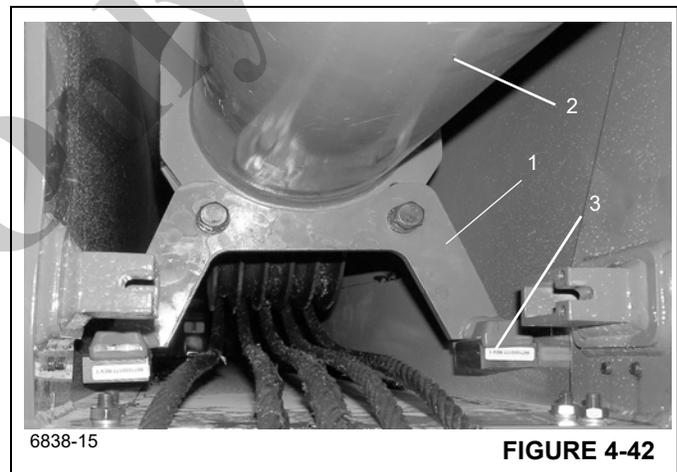

FIGURE 4-42
- 12. Install the cylinder foot weldment (1), (Figure 4-42) to the Telescope Cylinder (2), (Figure 4-42) using two bolts.
- 13. Lower the cylinder so that the cylinder foot weldment rests on the support foot weldment (3), (Figure 4-42) wear pads.